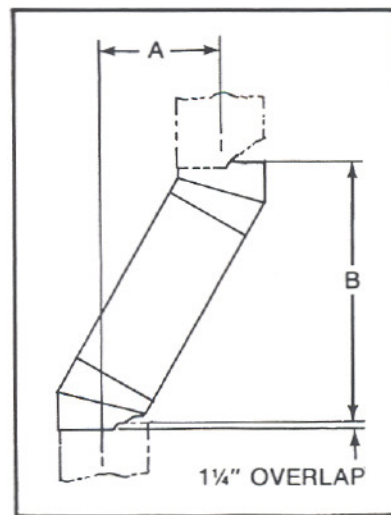

Figure 12
Figure 12 and Table 1 enable selection of the appropriate chimney components when using Offsets and Returns.
- Determine amount of offset required to extend the chimney through a wall or around an obstacle. See Figure 12, dimension "A".